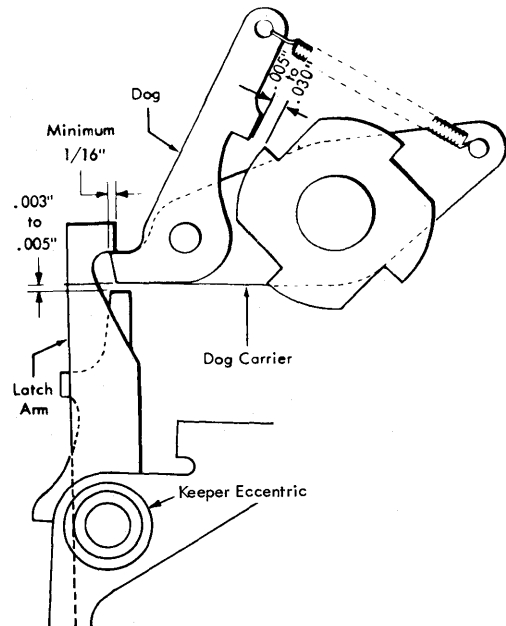

Figure 4-15. Punch Clutch Keeper to Dog Carrier Clearance
2. With the clutch cam follower on the high dwell of the cam, check for a minimum of 1/16" overlap of the latch on the dog and dog carrier (Figure 4-15).
3. Adjust the keeper eccentric for .003" to .005" clearance between the dog carrier and keeper with the dog carrier against the latch arm (Figure 4-15).